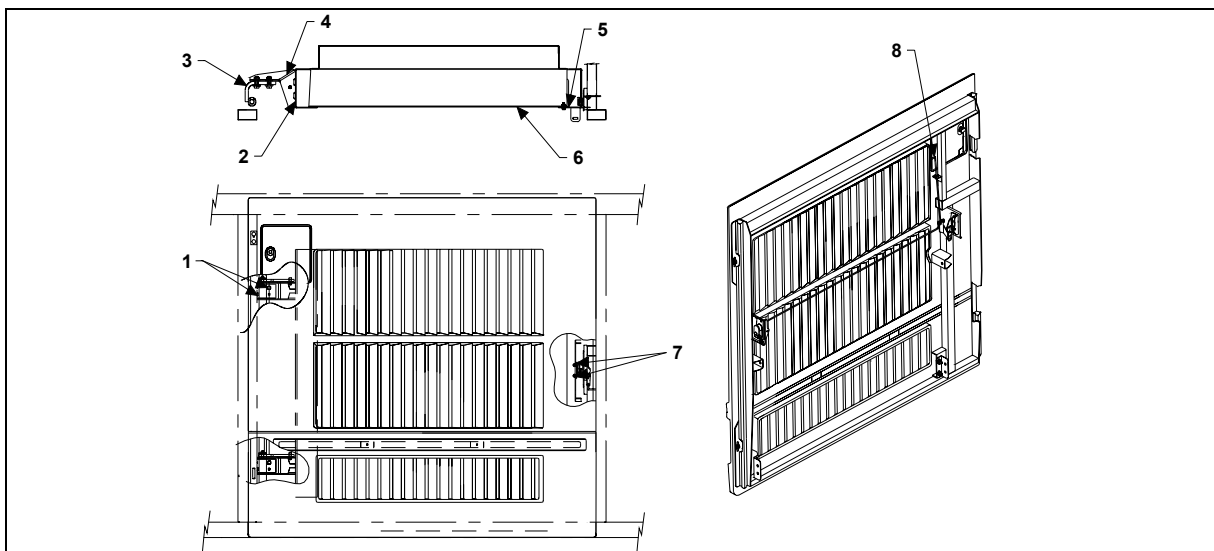

FIGURE 56: CONDENSER DOOR
2. Loosen the nuts (1, Fig. 56) holding the hinge (3, Fig. 56) to hinge attachment (4, Fig. 56). Loosening nuts (1, Fig. 56) allows the condenser assembly to be shifted "LEFT or RIGHT" and "UP or DOWN".
5. Loosen bracket nuts holding the panel to condenser. Panel (6, Fig. 56) may be shifted "IN or OUT", "LEFT or RIGHT" and "UP or DOWN".
6. Adjust condenser panel at brackets (2, Fig. 56) and (5, Fig. 56).